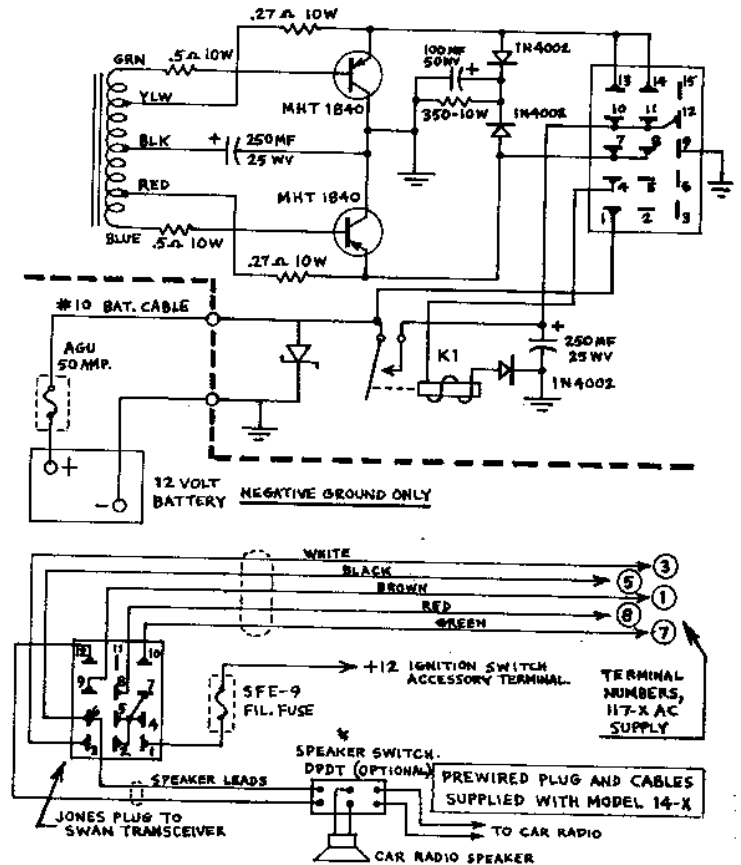

FIG. 8 MODEL 14-X D.C. MODULE
- (A) Connect the primary leads from the power supply directly to the battery terminals. Mount the ceramic fuse block with 50 amp. fuse in series with the positive lead. (With positive ground systems, the fuse goes in the negative lead). If possible, drill and tap a hole in the battery post itself for a contact stud. The more intimately the supply is connected to the battery, the less chance there is for voltage transients to reach it. Solder lugs are provided for the ends of the various leads.
- (B) The filament line comes prewired to the Jones plug, and has an in-line 9 amp. fuse. Connect this line to the ignition switch accessory terminal, as recommended in the schematic, Fig. 8. In most cars the 12 volts at this terminal is switched off while twisting the ignition key to start the engine. Thus, the relay in the power supply will also be turned off, and the transistors will not be subjected to the sharp transients put out by the starter motor. **NOTE:** The car radio is normally connected to the accessory terminal for the same reason. It may be more convenient to locate the 12 volt line going to the car radio, and splice into it with the transceiver filament line. Look for